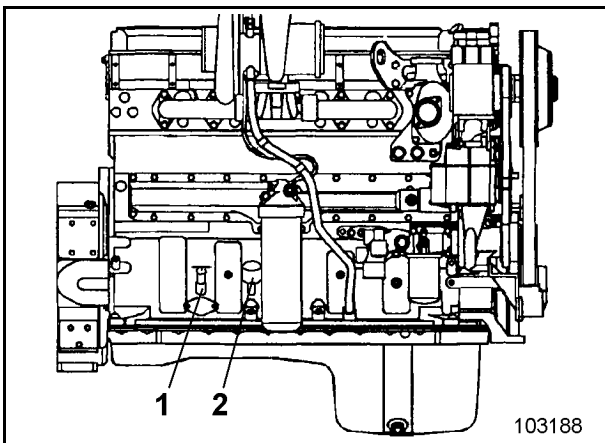
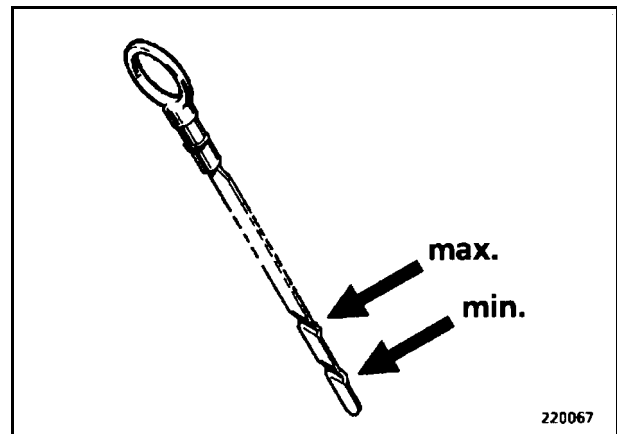

Fig. 3-11:
Fig. 3-12:
- Fill in engine oil through the filler tube (2, Fig. 3-11:) until the oil level reaches the "max" mark (Fig. 3-12:).